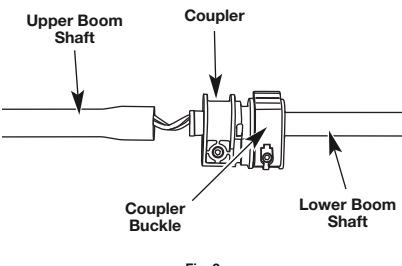

Fig. 2
**NOTE:** Make sure the coupler buckle is in the clamped position and that the coupler is at the top of its travel area on the lower boom. (Fig. 2).